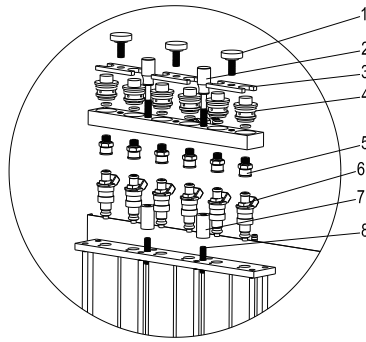

Fig. 05 For fuel top-supply injector
- Choose the fuel distributor stopper (4) from the coupler box and mount a proper O-ring on it. Remember to apply a little lubricating grease on the O-ring. Mount the fuel distributor stopper (4) onto the top-supply fuel distributor.
- Mount the crescent plate (3) and tighten it with a plate bolt (1).
- Choose a proper adaptor (5) according to the injector type and mount it to the corresponding coupler under the top-supply fuel distributor.
- Install the top-supply fuel distributor and the injector on the fuel distributor supporter with a proper adjustable screw and knurled nuts, and tighten two raffle screws (black). See Fig. 05.